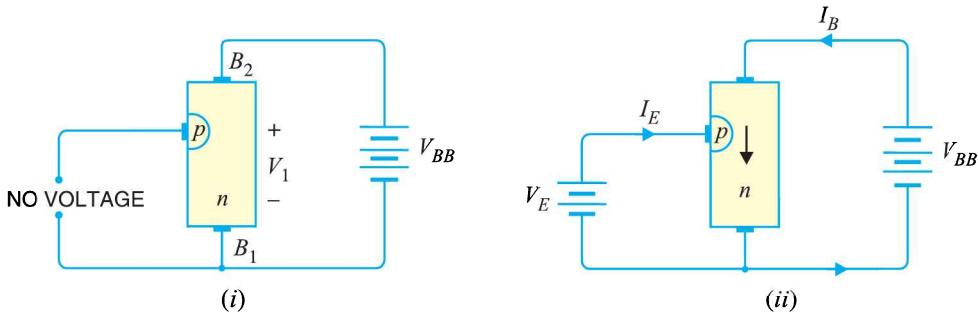

Fig. 21.25
Operation. Fig. 21.25 shows the basic circuit operation of a unijunction transistor. The device has normally B_2 positive w.r.t. B_1 .
- If voltage V_{BB} is applied between B_2 and B_1 with emitter open [See Fig. 21.25 (i)], a voltage gradient is established along the *n*-type bar. Since the emitter is located nearer to B_2 , more than **half of V_{BB} appears between the emitter and B_1 . The voltage V_1 between emitter and B_1 establishes a
(ii) If a positive voltage is applied at the emitter [See Fig. 21.25 (ii)], the *pn* junction will remain reverse biased so long as the input voltage to the emitter exceeds V_1 . If the input voltage to the emitter exceeds V_1 , the *pn* junction becomes forward biased. Under these conditions, holes are injected from *p*-type material into the *n*-type bar. These holes are repelled by positive B_2 terminal and they are attracted towards B_1 terminal of the bar. This accumulation of holes in the emitter to B_1 region results in the decrease of resistance in this section of the bar. The result is that internal voltage drop from emitter to B_1 is decreased and hence the emitter current I_E increases. As more holes are injected, a condition of saturation will eventually be reached. At this point, the emitter current is limited by emitter power supply only. The device is now in the *ON* state.